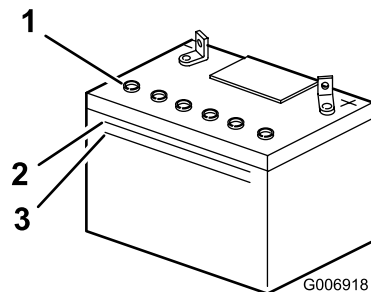

Figure 32
2. Look at the side of the battery. The electrolyte must be up to the upper line (Figure 32).
Note: do not allow the electrolyte to fall below the lower line (Figure 32).
2. Remove the filler caps (Figure 32).
3. Slowly pour distilled water into each battery cell until the level is up to the lower part of the tube (Figure 32).